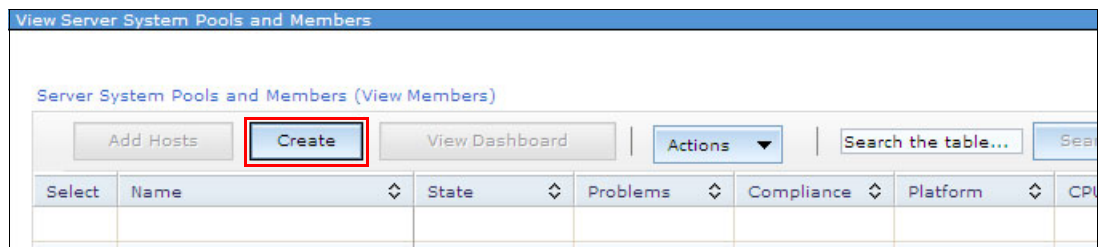

Figure 10-101 Clicking Create
2. Click **Create** as shown in Figure 10-101.